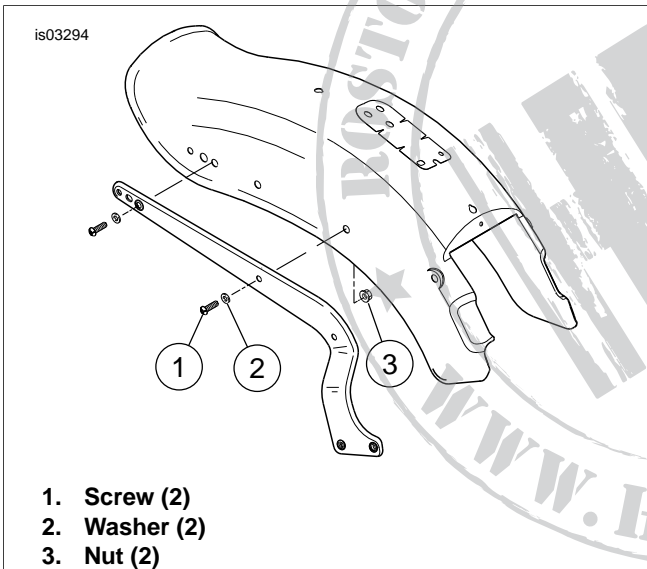

Figure 1. Remove Hardware (FXST)
- See Figure 1. Remove and discard stock screws (1) and washers (2) from fender support.